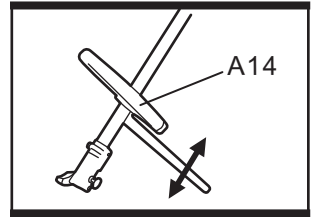

Fig. 12
- 1). Loosen the bolts on the auxiliary handle (A14) and adjust the position. (See Fig. 12)